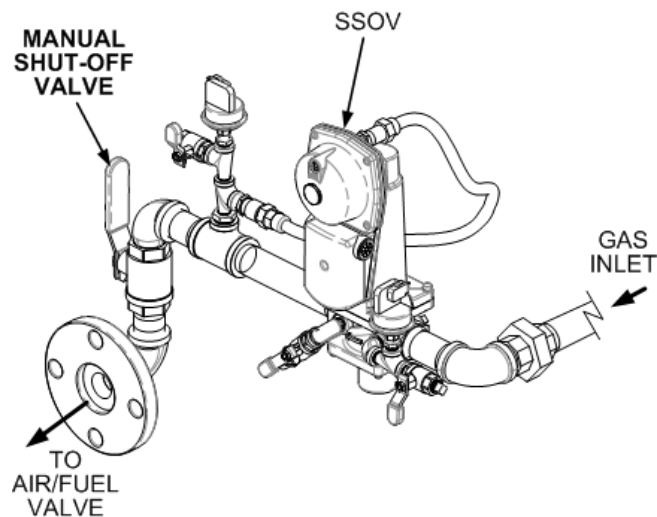

Figure 5-3. Manual Gas Shut-Off Valve Location
3. Close the manual gas shutoff valve located between the Safety Shut-Off Valve (SSOV) and the Air/Fuel Valve (see Figure 5-3).
8. Once flame is proven, close the 1" manual gas shut-off valve located between the SSOV (Figure 5-3) and the Air/Fuel Valve.